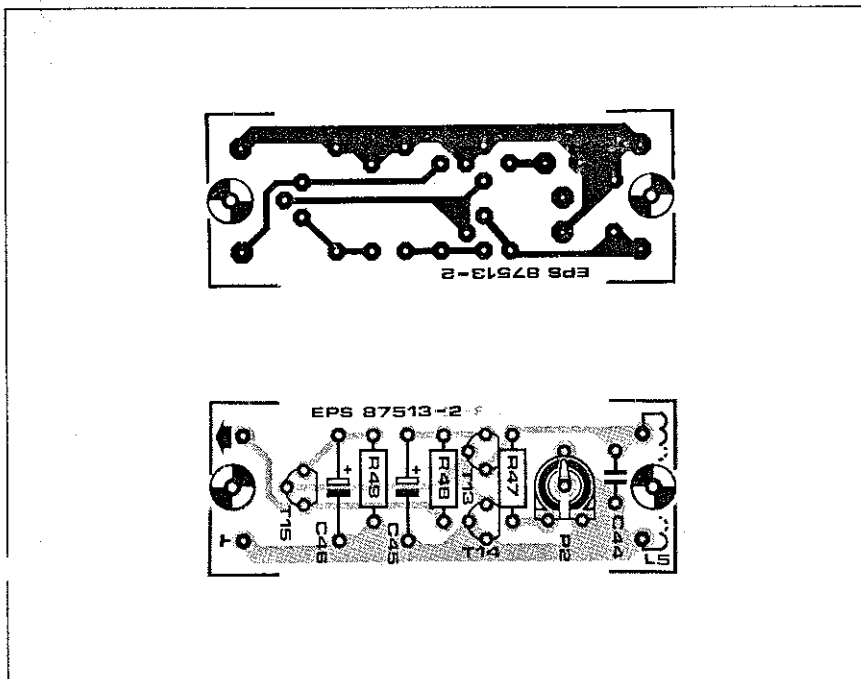

Fig. 2. Printed circuit board for the active aerial.
The receiver is composed of two boards: active aerial and receiver/demodulator. The active aerial is identical to that used for the DCF77 receiver and locked frequency standard (see Ref. (1)). The unit is constructed on the small printed circuit board shown in Fig. 2. The aerial, L_5 , is formed by about 200 closewound turns of 0.2 mm dia enamelled copper wire on a 30 mm long cardboard or paxolin former. This is slid on to a 12-20 cm long ferrite rod of 10 mm diameter. The rod and associated former used for building the prototype receiver were parts salvaged from a discarded MW/LW radio.